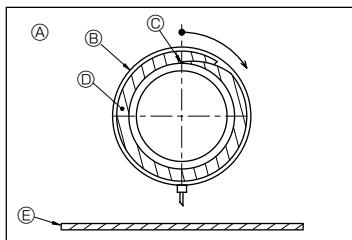

Fig. 3-6
5. Insulate the drain port and drain socket with insulating material (C), then secure the material with a band. (Both insulating material and band are supplied with the unit.) (Fig. 3-6)
[Fig. 3-6]